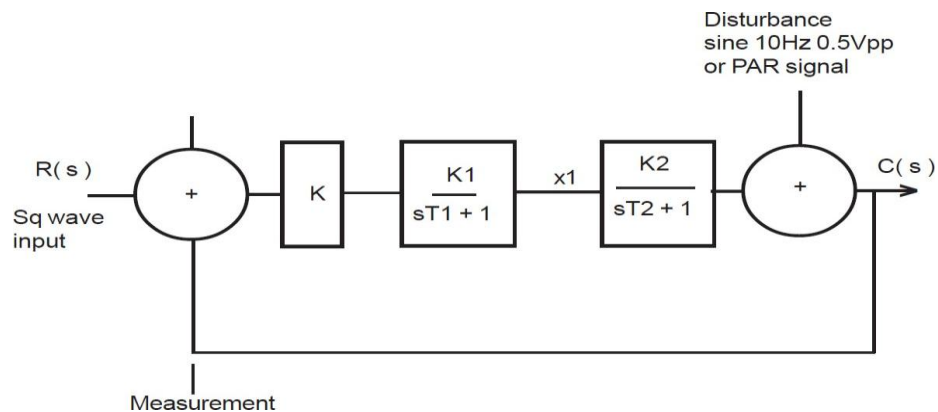

Fig. 7a. Way to connect disturbance adder in the second order circuit at output.
3. Disconnect the sine wave signal from the input and connect it with output disturbance adder (Fig. 7a). Observe the effect.